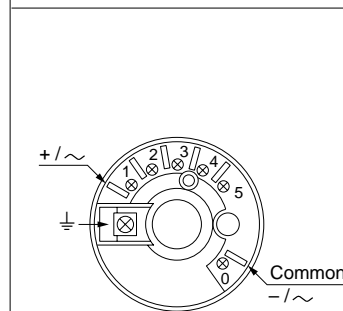

Fig. 3
- Connect the power supply of the elements to be controlled to terminals 1 and 0 from the base. (fig. 3)